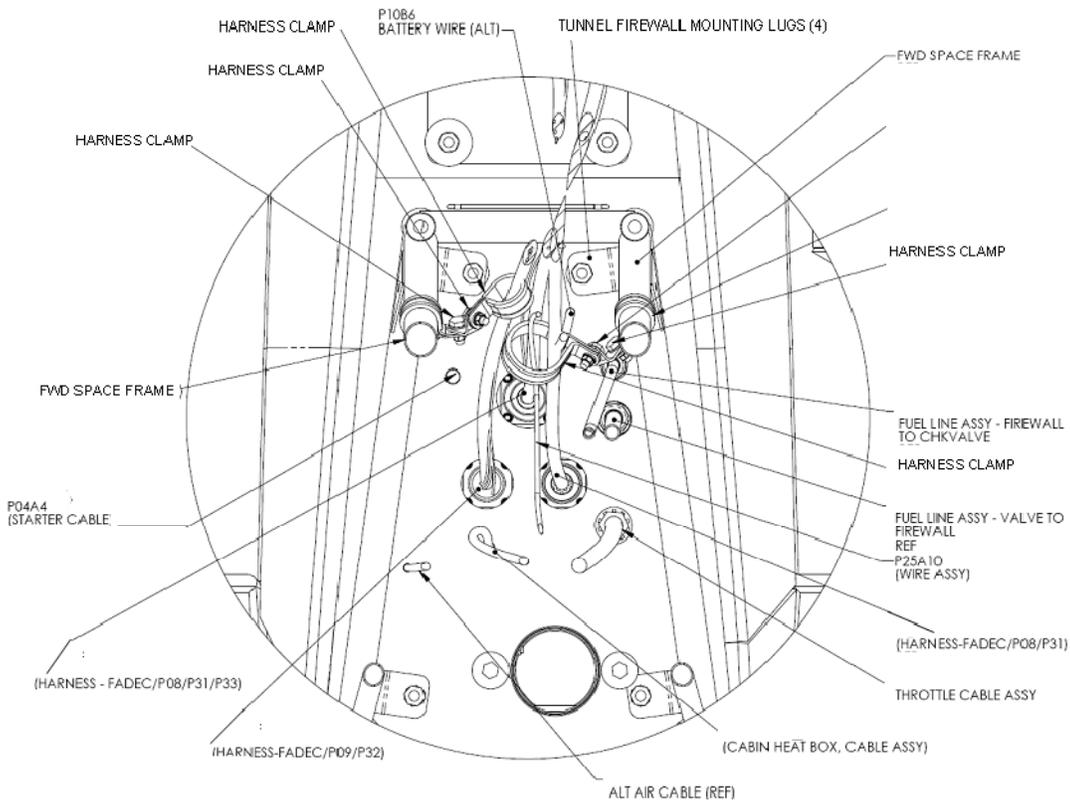

Figure 71-32 Tunnel Firewall Assembly Disconnects - Fuselage
8. Disconnect the Tunnel Firewall Assembly fuselage side components as shown in Figure 71-32.